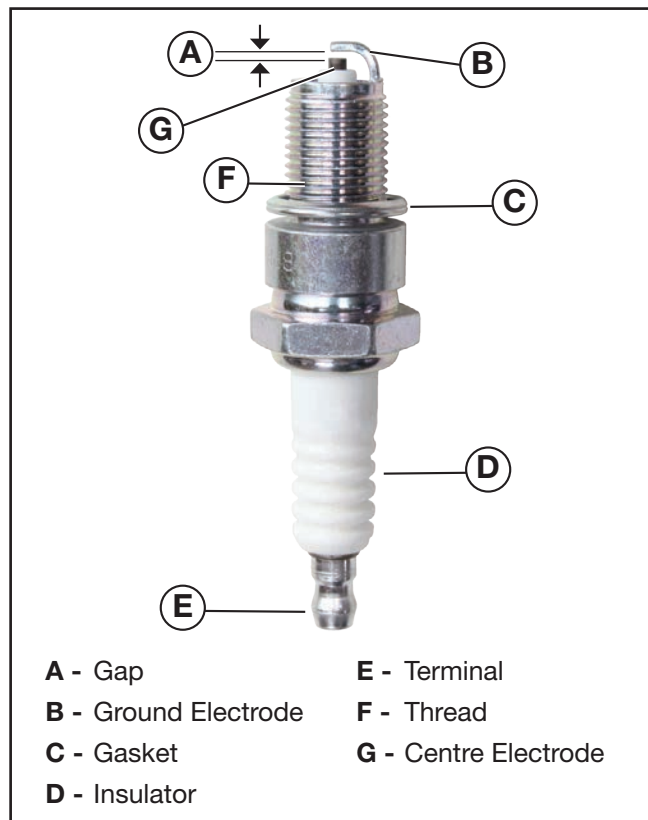

Figure 49 – Spark Plug
- Spark plug gap within the acceptable limits of 0.70 – 0.80 mm or 0.028 – 0.031 inch (see *Figure 49*); after cleaning with a wire brush, check using a spark plug gap tool or feeler gauge and adjust by carefully bending the ground electrode. Always check the gap of a new spark plug before installing it.